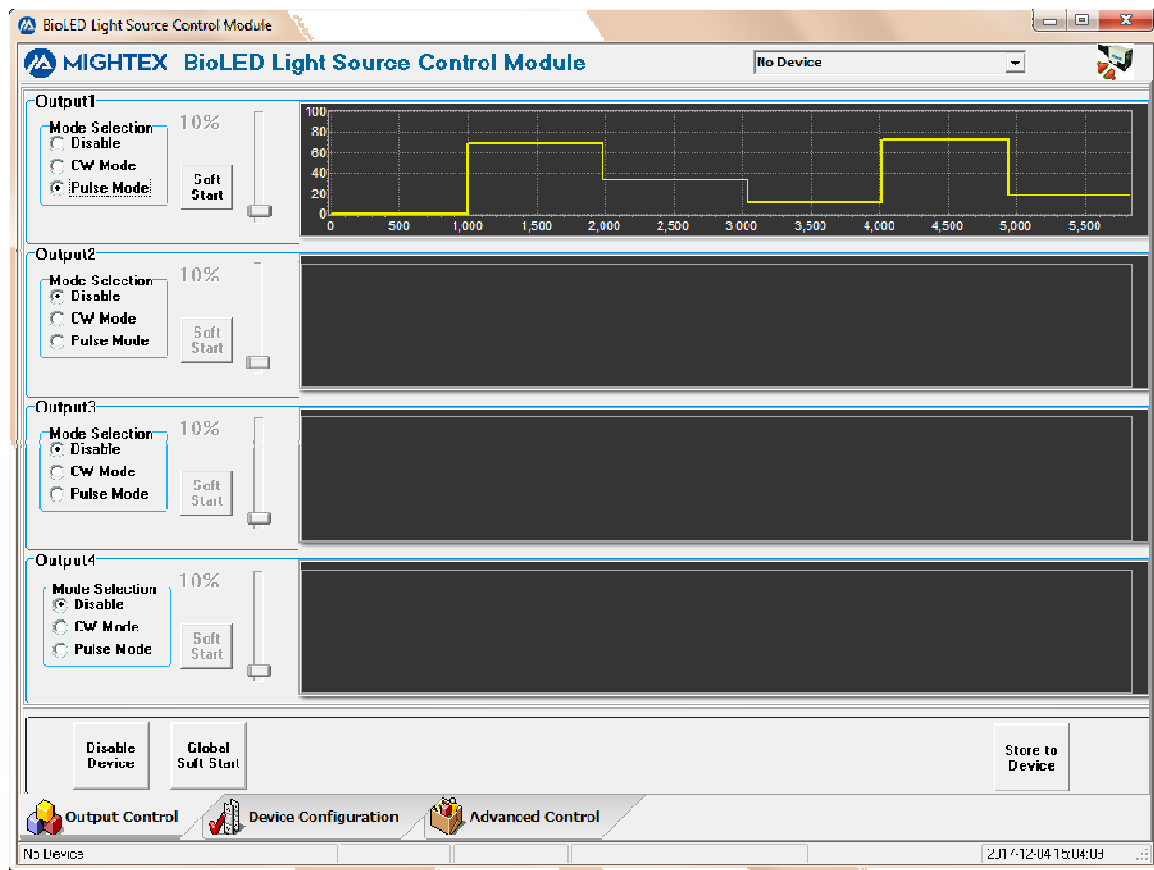

Figure 4.18 The Main Operation Window with new pulse profile loaded (Output1)
*. Click the [OK] button to accept the new profile as the pulse profile of the output. It will close the “**Pulse Profile Settings**” window and returns to the main operation window. As shown in the Figure 4.18, the new pulse profile will be displayed on the output chart (in this example, it is Output1).